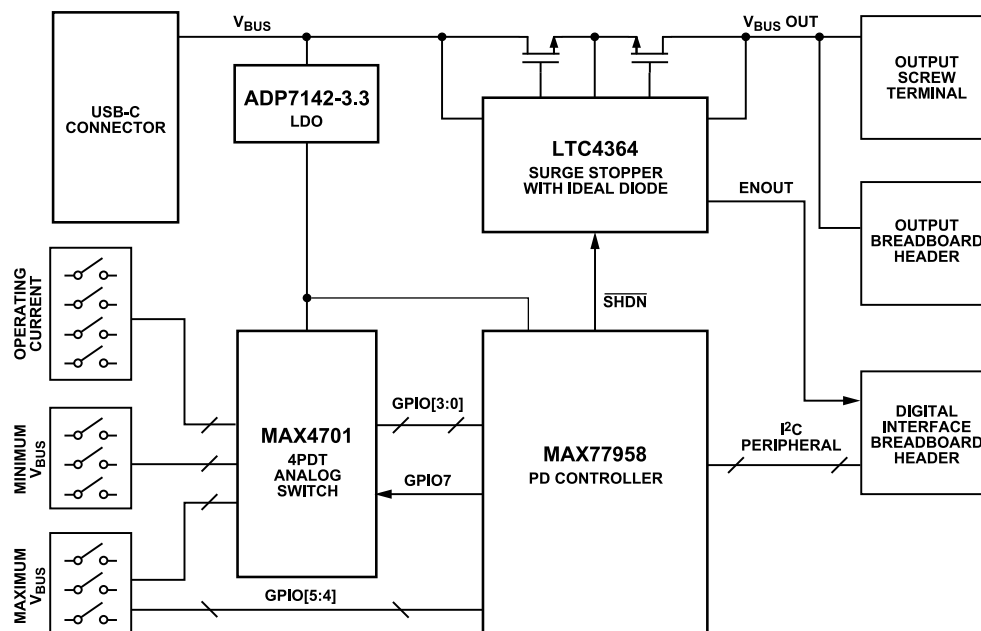

Figure 1. CN0581 Simplified Block Diagram
The circuit shown in Figure 1 is a standalone USB-C power delivery (PD) module that adds USB-C power sink capability to projects and devices, replacing traditional power jacks. Voltages of 5 V, 9 V, 15 V, or 20 V at currents from 0.5 A to 5 A are supported, selected via dual in-line (DIP) switches. A hot-swap surge stopper with ideal diode allows charging of large bulk bypass capacitors, and an enable output enables the downstream load after ramp up is complete, while preventing reverse current during faults. No software control is required for operation; the preloaded firmware configuration reads the DIP switches and sets the power delivery object (PDO) voltage and current modes accordingly. Custom configurations can be optionally programmed via an I²C interface.